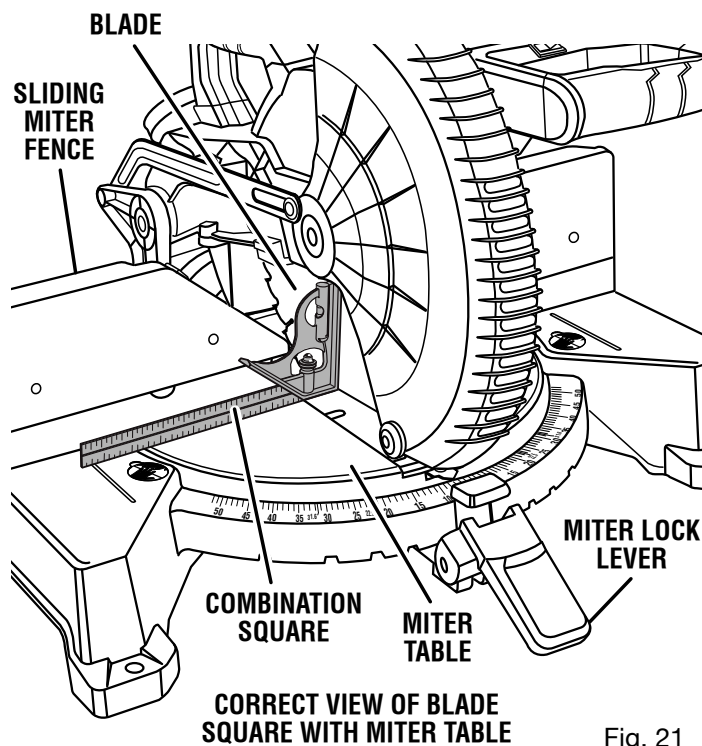

Fig. 21
See Figures 21 - 23.
- The edge of the square and the saw blade should be parallel as shown in figure 21.